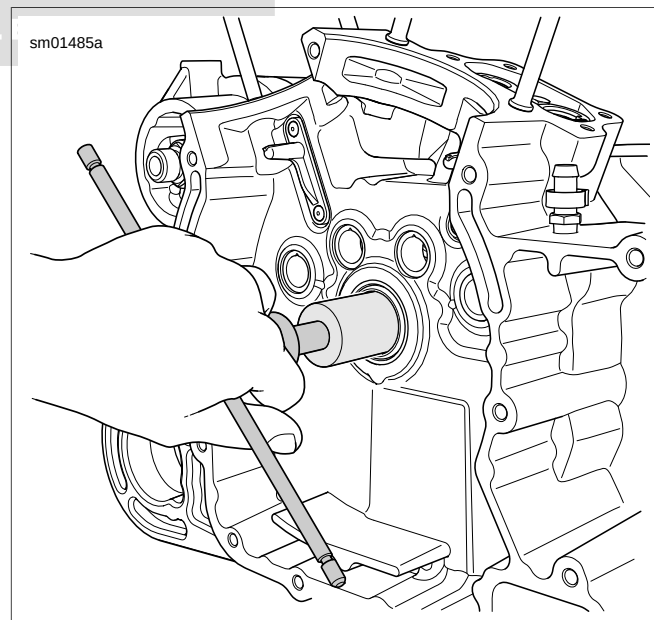

Figure 3-120. Line Reaming Pinion Shaft Bushing
2. See Figure 3-120. Install a PILOT (Part No. HD-94812-87) into right crankcase roller race. Insert REAMER (Part No. HD-94812-1) through the pilot.